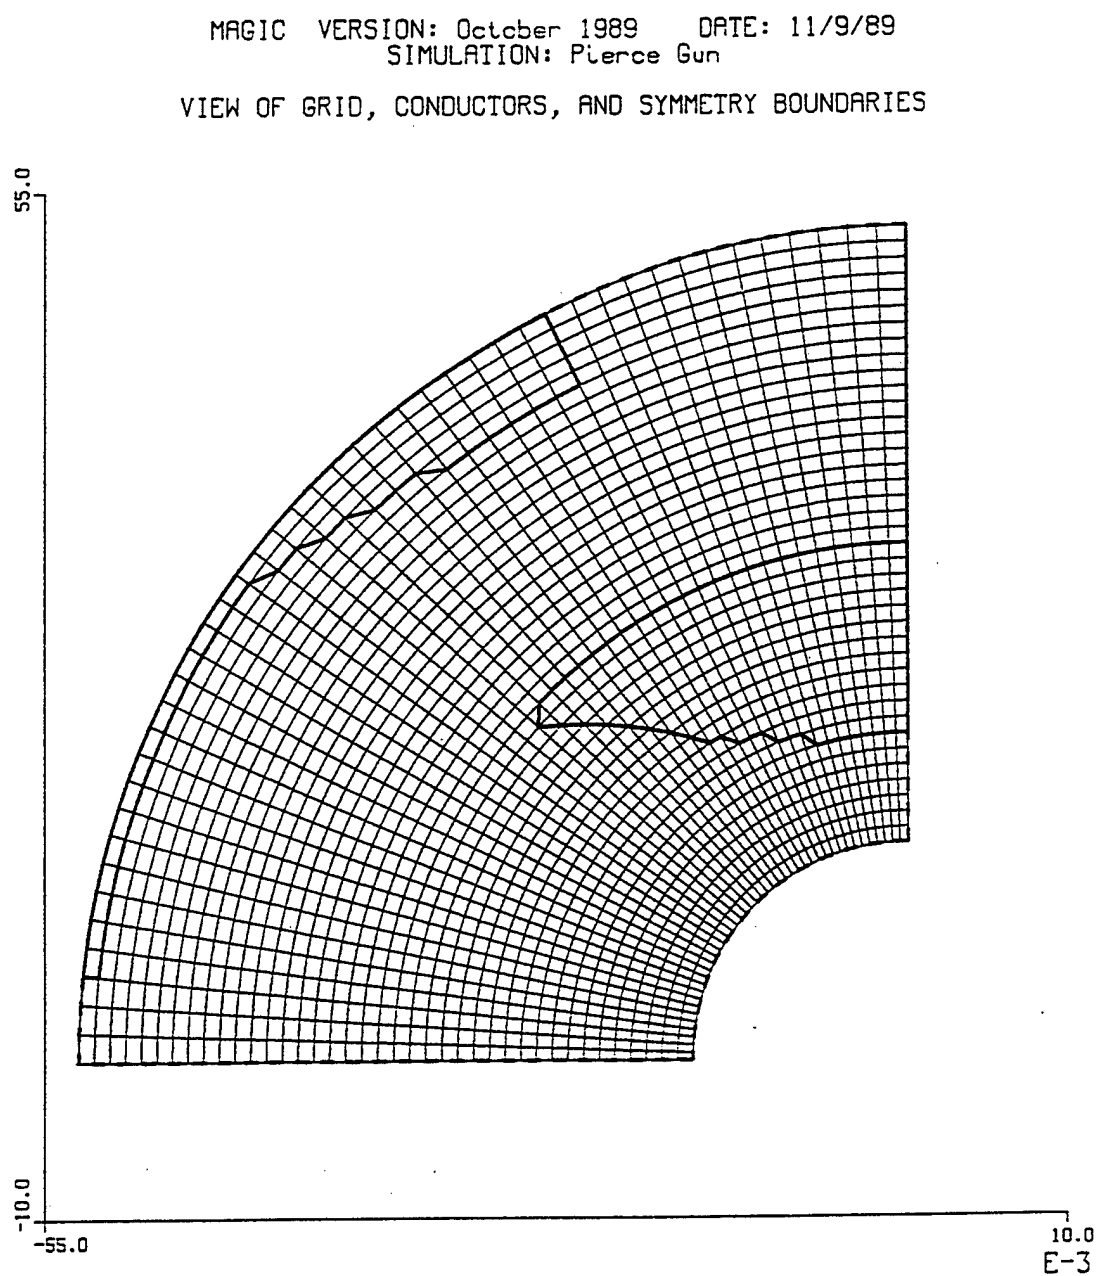

Figure 24-1. Display of Pierce gun.
3. In the following example, the DISPLAY command is used to plot a Pierce electron gun, consisting of an emitting cathode, a focus electrode, and an accelerating anode. This simulation was done using the spherical coordinate system. In the DISPLAY command, physical cartesian coordinates must be specified. The x-axis limits are given as -0.055 m to 0.01 m. The y-axis limits are given as -0.01 m to 0.055 m. Figure 24-1 illustrates all of the simulation features.